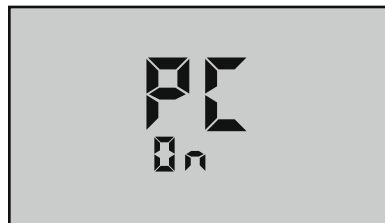

Figure 27
5. Press  key. “PC On” will be displayed (see Figure 27).